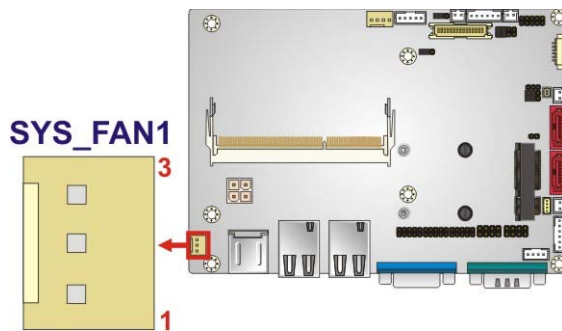

Figure 3-9: System Fan Connector Location
- CN Location:** See **Figure 3-9**